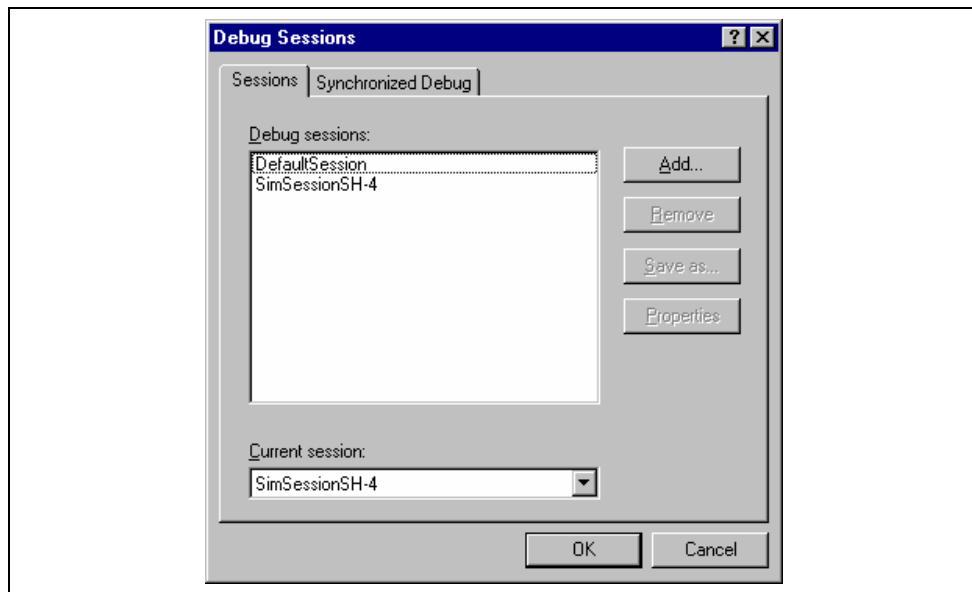

Figure 3.19 Debug Sessions Dialog Box
1. Select [Options -> Debug Sessions...]. This will open the [Debug Sessions] dialog box (figure 3.19).
1. Select [Options -> Debug Sessions...] to display the [Debug Sessions] dialog box (figure 3.19).